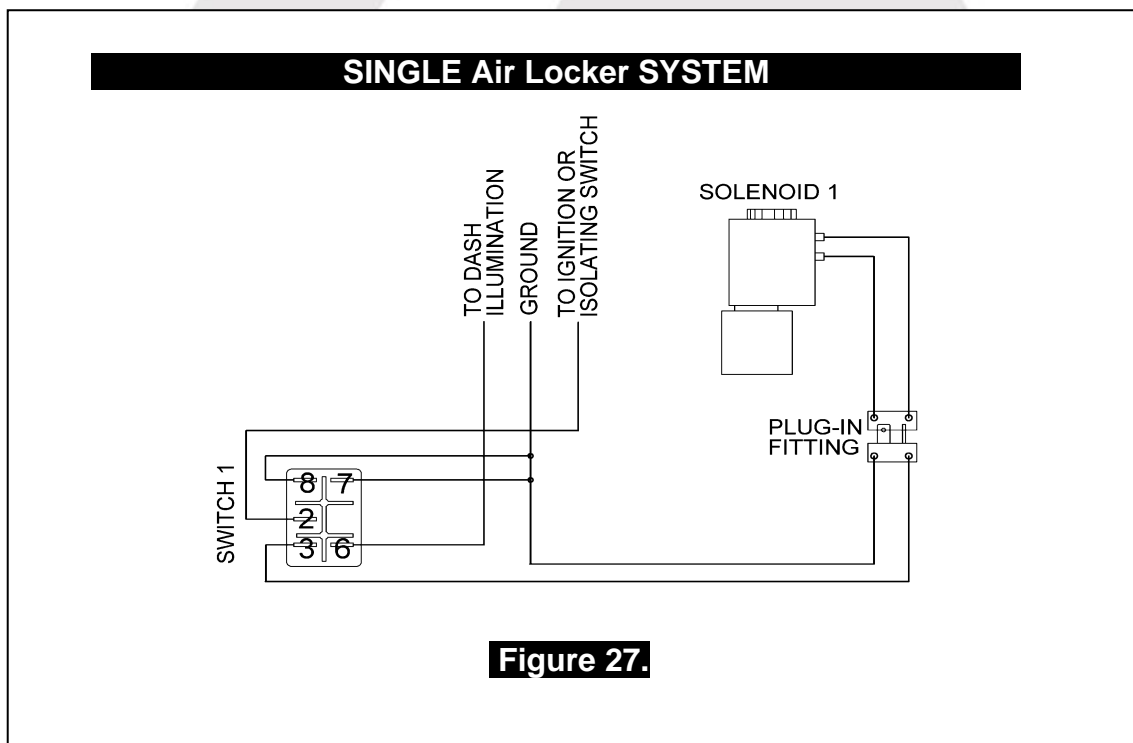

Figure 27.
When connecting the actuation switch to an alternate air source, the switch(es) should be wired according to figures 27. and 28. depending on whether one or two *Air Lockers* will be installed in the vehicle.
- If only one *Air Locker* is to be installed in the system, the switch and solenoid should be wired according to figure 27. regardless of whether the *Air Locker* has been installed in the front or rear axle of the vehicle.